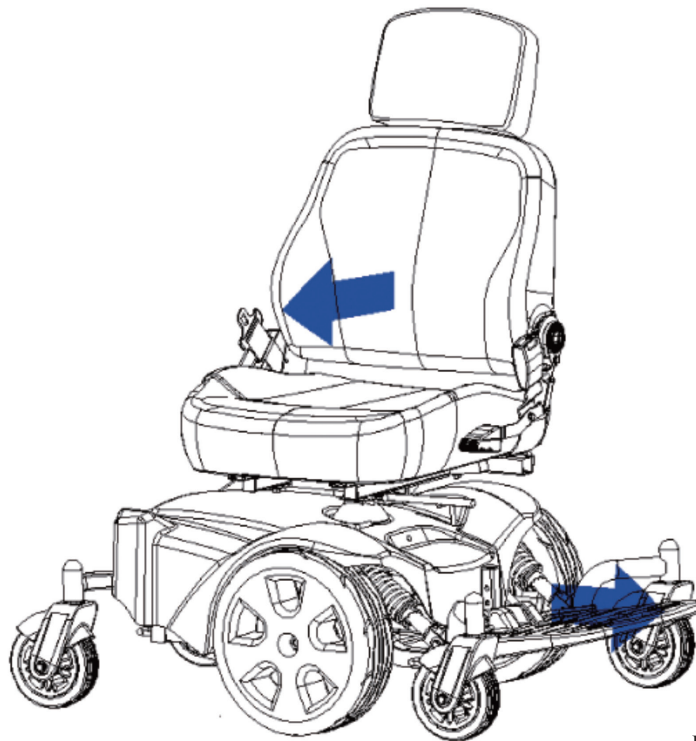

Figure 11. Install the seat
3. Install the seat lateral .The status of seat is disengage. (See figure 11)
5. Swivel the seat lateral and then pull it up and off of the power base. (See figure 11)